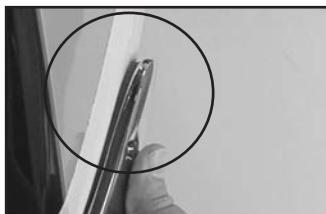

Figure 4
7. Position the Fender Tip, and squeeze fender toward tip. Insert the Screws from the outside. Install the Washers and Nuts to the inside. Tighten securely. **(5/16" Wrench No. 2 Phillips Screwdriver) Figure 4**